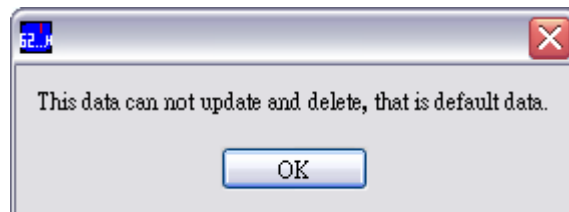

Figure 9-4 Warning Message of Invalid for Modification &amp; Deletion
**Replace**: It replaces the modified data. Click this button will prompt a warning message to confirm if replacing the Voc, Isc, Vmp and Imp parameters in the database that associate with the Module Type displayed on the screen. For the factory default parameters that cannot be changed or deleted, a warning message will appear as Figure 9-4 if modifying them and no modification will be done.
**Delete**: It deletes data. Click this button will prompt a warning message to confirm if deleting the Voc, Isc, Vmp and Imp parameters from the database that associate with the Supplier Name and Module Type displayed on the screen. For the factory default parameters that cannot be changed or deleted, a warning message will appear as Figure 9-4 if modifying them and no modification will be done.